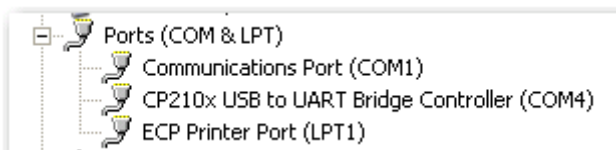

Figure 2-5 • Determining the USB Serial Port's COM Port
4. Determine the COM port assigned to the USB interface. Open the Windows Control Panel and double-click the **System** icon. Click the **Hardware** tab and click the **Device Manager** button. Expand the **Ports (Com & LPT)** item in the Device Manager. Look for the CP2102 USB to UART Bridge Controller in the list of ports. The COM port in parentheses identifies the COM port assigned to this device (Figure 2-5). If you do not see CP2102, you need to install the CP210x_Drivers driver. Refer to "Installing the M1AFS-ADV-DEV-KIT Board USB Serial Driver" section on page B-31 for more information.
The HyperTerminal session will echo the commands sent to configure various register and memory settings. At the end of the download, the session will return to the prompt as shown in Figure 2-5. A question mark on the line above the prompt indicates that the script failed, or one of the